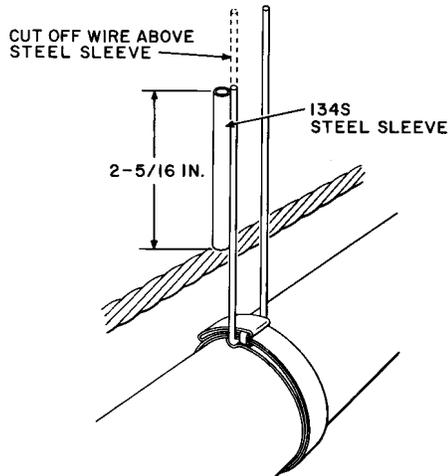

Fig. 16—Measurement and Cutting of Wire Hanger
- (1) Place a 134-S steel sleeve on top of the strand against the wire hanger and cut off any excess wire even with the sleeve as shown in Fig. 16, or measure up from the top of the strand 2-5/16 inches and cut off the excess wire.